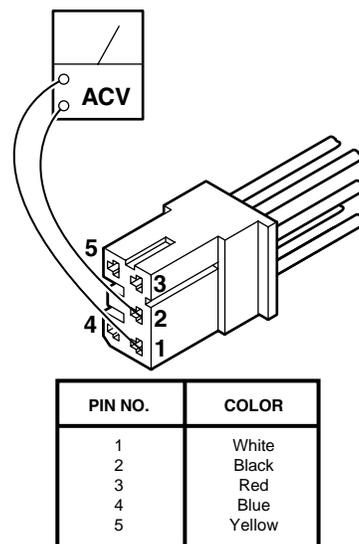

Figure 5-2. Connector CN4
3. Use an AC voltmeter capable of measuring 120 VAC and measure the voltage between pins 1 and 2 (black and white wires) located in connector CN4. See figure 5-2. You should receive line voltage 120 VAC.